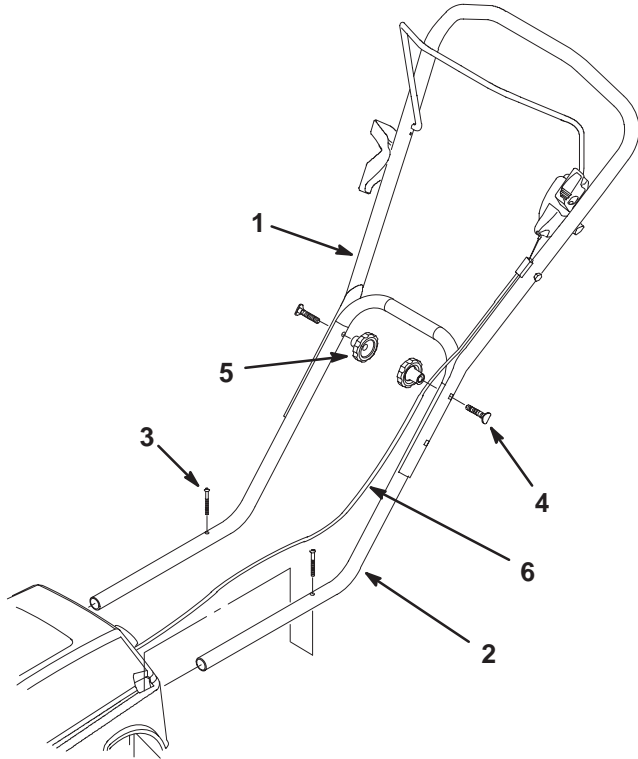

Figure 4
3. Upper Handle (Fig. 4) – Handle height is adjustable to two different heights for operator comfort. Stand behind mower to gauge height. Position ends of upper handle on outside of lower handle. Select one set of upper handle holes and align with lower handle holes. Secure handles in place with bolts and knobs.